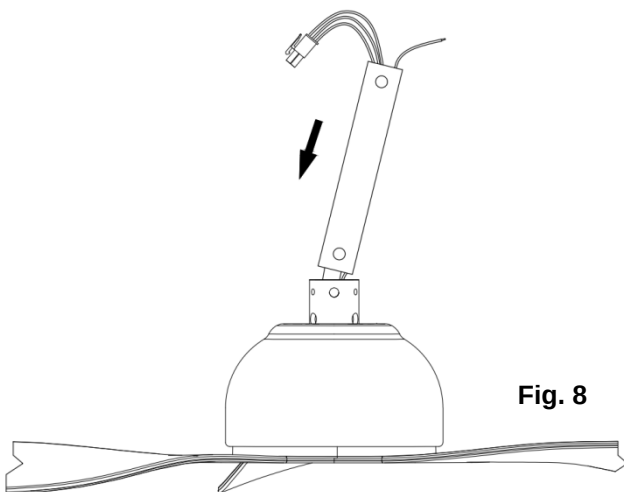

Fig. 8
6. Carefully feed the fan wires up through the down rod. (Fig. 8)